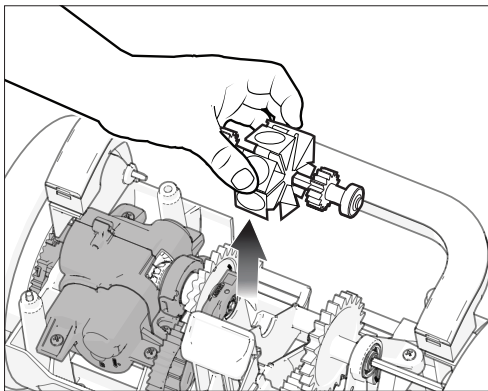

Figure 9. Remove the Engine
3. If necessary, pull the engine by the engine blades and remove it. No tools required (Figure 9).
4. Reinstall the engine, (Figure 9).